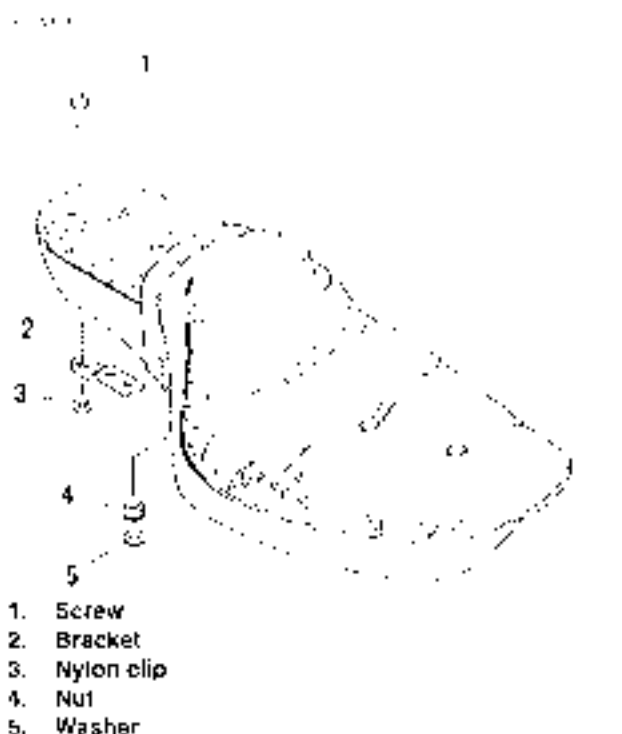

Figure 2-126. Seat
See Figure 2-126. There is a nylon retaining clip (3) between the rear seat bracket and the fender. DO NOT lose this clip, substitute a clip of different material or install the seat without this clip. Any of the above actions will result in scratched fender paint.
- See Figure 2-126. Remove screw (1) from rear seat bracket (2). (Nylon clip remains with fender assembly.)